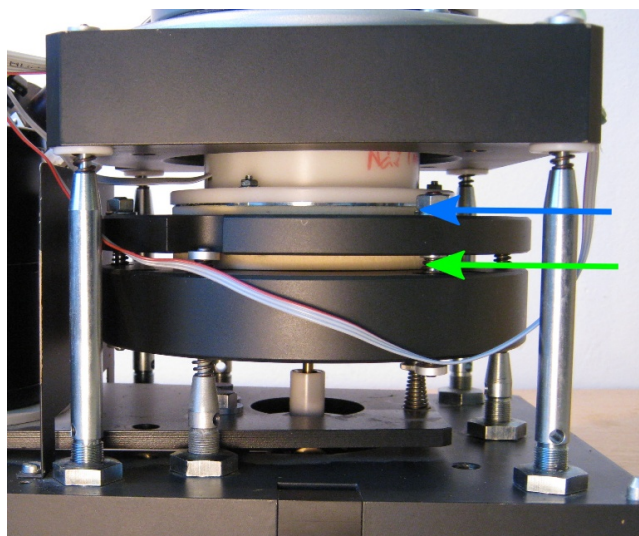

Figure 3: Damping pads
- Check the integrity of two damping foams placed above and between bronze plates, marked by two arrows in Fig. 3.
- Press bronze plates together few times and check flexibility of the damping pads. Primarily the lower one, marked by green arrow in Fig. 3, must be flexible, in good order and in correct distance.
- During the rotation of the sample try to slightly change the distance between two round plates shown in Fig 3. by pressing them or lifting them by hand.